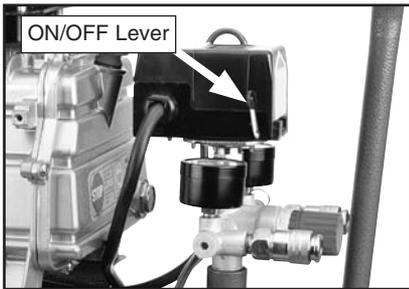

Figure 4. ON/OFF lever.
2. Make sure the **ON/OFF** lever is in the up or the **OFF** position, as shown in **Figure 4**.